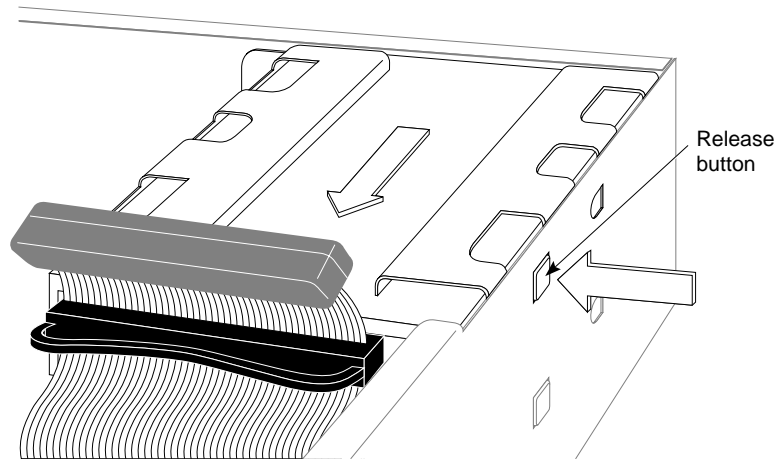

Figure 6-2 Removing an Internal Drive Bracket
6. Remove the empty drive bracket (with the face plate attached) by pressing the release button that protrudes through the side of the chassis and pulling the bracket toward you, as shown in Figure 6-2.
Figure 6-2 shows how to remove the upper drive bracket, but the procedures for removing both upper and lower drive brackets are the same. Save the drive bracket and face plate. If you remove the drive and do not replace it, you must reinstall them.